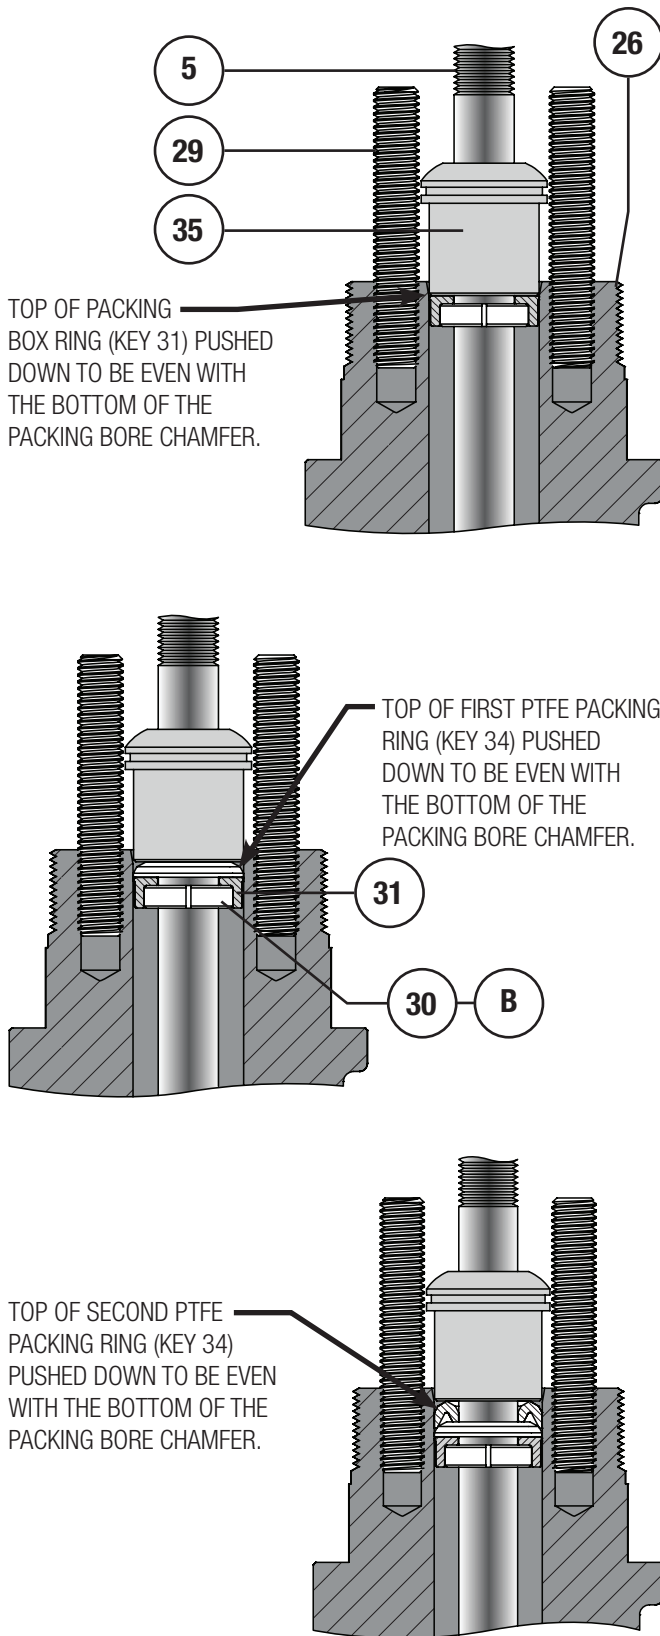
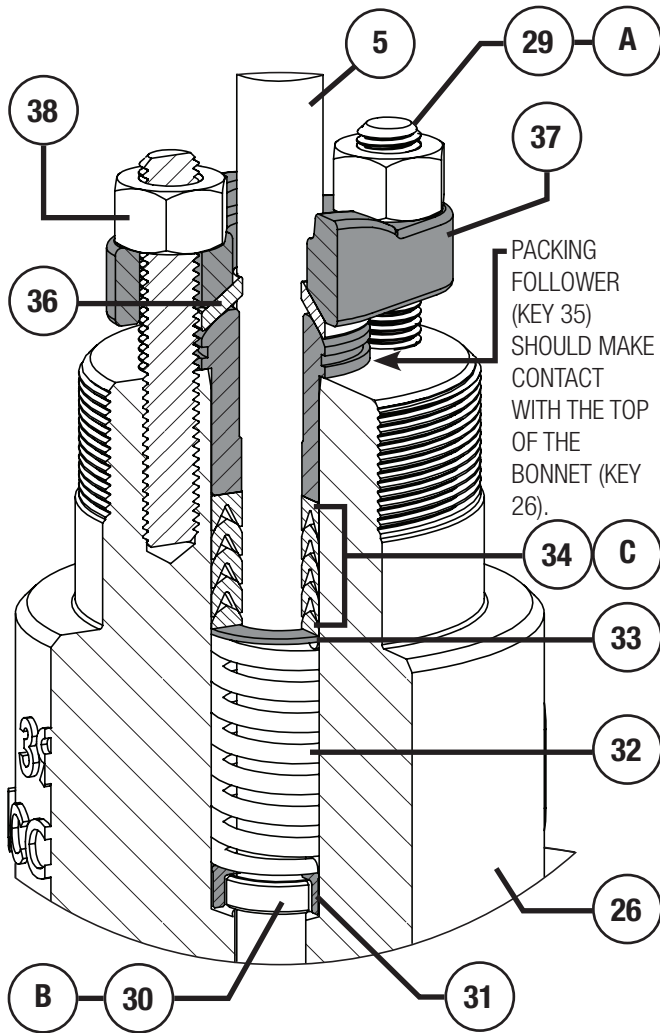

Figure 27 Proper Packing Ring Installation Technique
Figure 28 Single Style Packing Installation Diagram
For Live Loaded packing instructions see the Live Loaded Sliding Stem Packing Manual (Part Number P-LLPS). For other packing arrangements refer to Figures 28, 30, 31, 32.
NOTE: To prevent trapping air between packing during installation, it is recommended that packing rings be installed one at a time using the packing follower (Key 35) to push the packing rings in place. Do not force packing rings below the chamfer of the packing bore before adding another ring, packing rings should only be pushed down the thickness of the added ring. Refer to Figure 27.
- Apply Molykote® 5 (Key B) to the PTFE packing rings (Key 34). Install the packing rings one ring at a time (as shown in Figure 27) in the proper order and orientation as shown in Figure 28.
- 2 Apply Molykote® 5 (Key B) to the first set of packing rings (Key 34). Install the packing rings one ring at a time (as shown in Figure 27) in the proper order and orientation as shown in Figure 30.
- 4 Apply Molykote® 5 (Key B) to the second set of packing rings (Key 34). Install the packing rings one ring at a time (as shown in Figure 27) in the proper order and orientation as shown in Figure 30.
- 4 Install 1 ring of graphite filament (Key 40) as shown in Figure 27. **NOTE:** Graphite filament is a wound material that typically looks like rope and is split.
- 5 Install 1 ring of graphite ribbon (Key 41) as shown in Figure 27. **NOTE:** Graphite ribbon is compressed into rings and not split like the graphite filament.
- 6 Install the remainder of the graphite filament (Key 40) and graphite ribbon (Key 41) one at a time (as shown in Figure 27) in the proper order and orientation as shown in Figure 31.